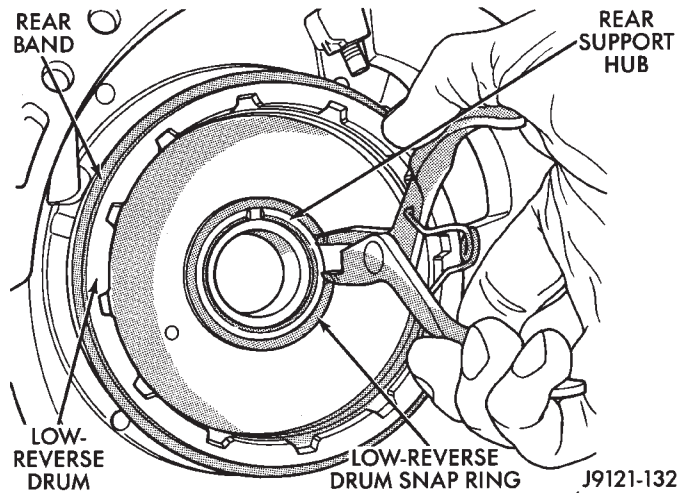

Fig. 133 Installing Low-Reverse Drum Snap Ring
(6) Install snap ring that retains low-reverse drum to hub of rear support (Fig. 133).